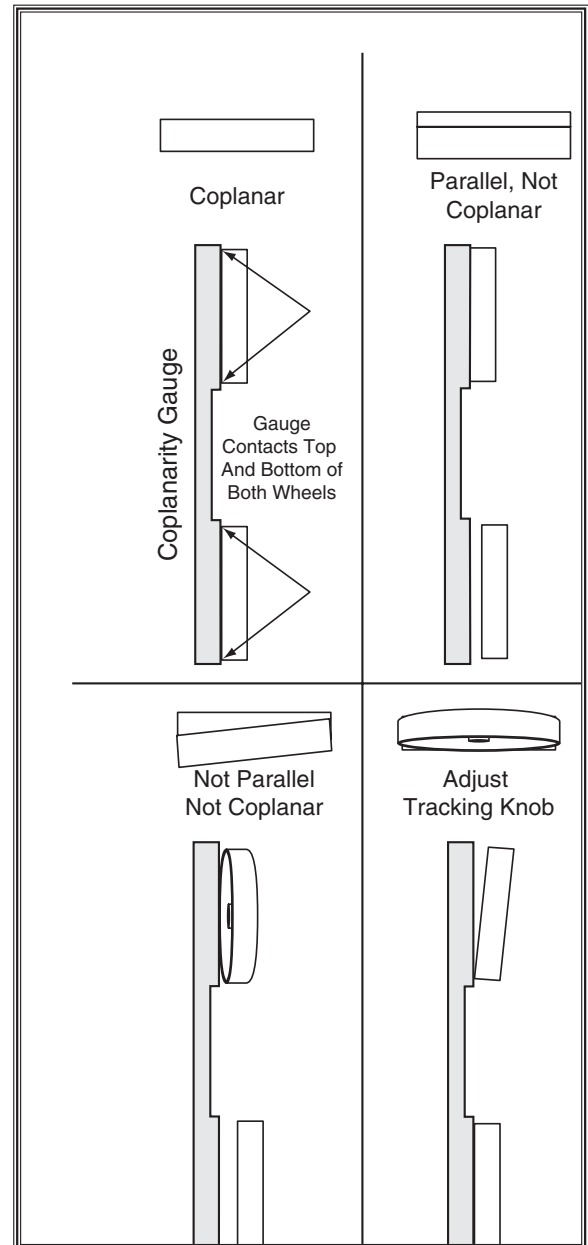

Figure 55. Coplanar diagram.
When wheels are aligned, or coplanar, the bandsaw cuts straighter, with much less vibration, heat, and blade wear because the blade is automatically balanced on the wheel. See **Figure 55** to better understand coplanarity.
2. With the blade on and properly tensioned, hold a straightedge or a self-made "coplanarity gauge" (Figure 55) close to the center of both wheels. Make sure the straightedge or gauge fully extends across the wheels as shown in Figure 55.